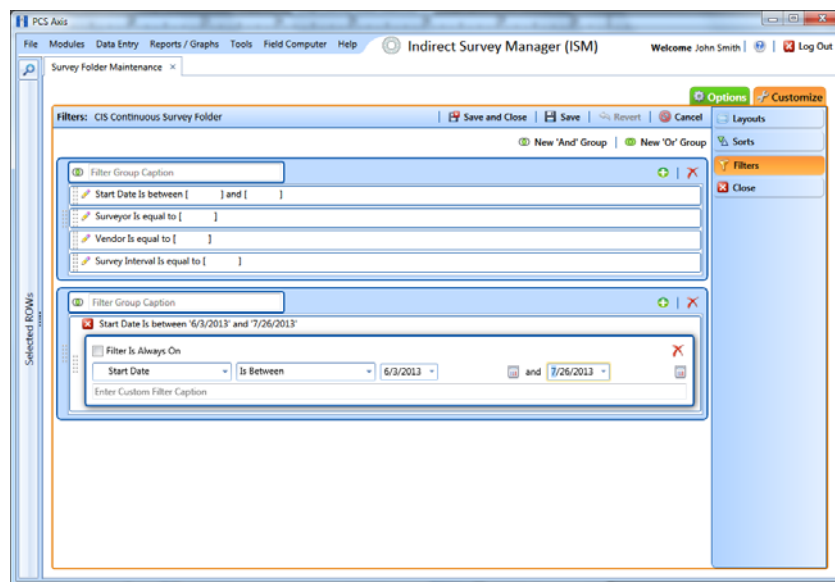

Figure 5-17. Filters
- 6 Click the **Filters** button  to open the *Filters* page. Then click  **New 'And' Group** to open a filter properties group box (Figure 5-17).
- 9 If the AND filter group includes a date filter, such as *Start Date Is Between* shown in Figure 5-17, set a date range using a calendar or dynamic dates in the following manner: